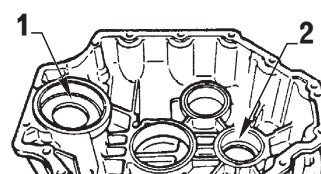
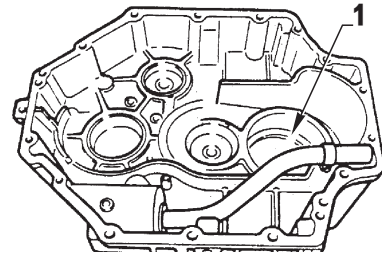

FIG. 6-3a
FIG. 6-3b
Using a seal mandrel inside the housing top the input shaft seal out. Discard seal and replace with a new seal. (item 2, Fig. 6-3a).
For transmission types ZF63 IV, $i=2.0$ and $i=2.5$ (item 2, Fig. 6-3a) the radial shaft seal ring has already been removed before dismounting the housing half.
Using a mandrel punch top the output seals out from the housing. Discard seals and replace with a new seal (Fig. 6-3b and Fig. 6-3a item 1).